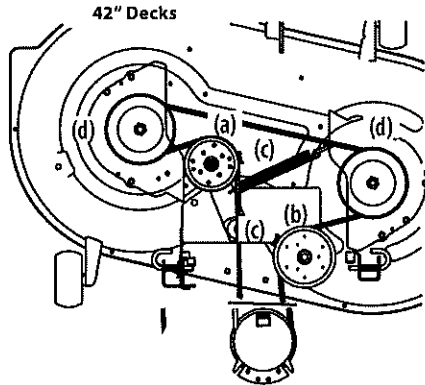
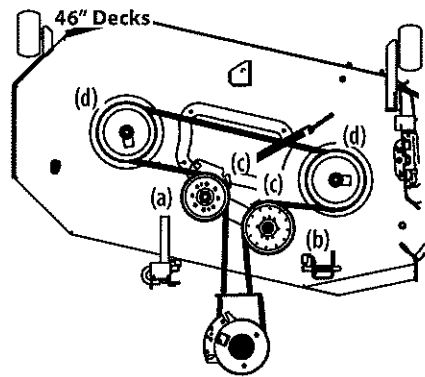
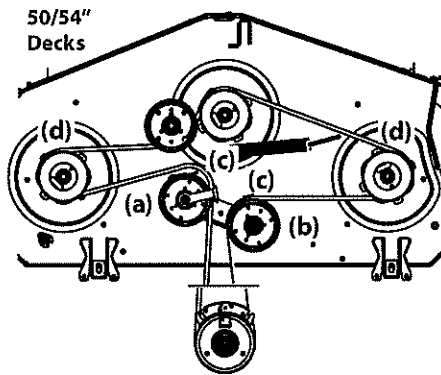
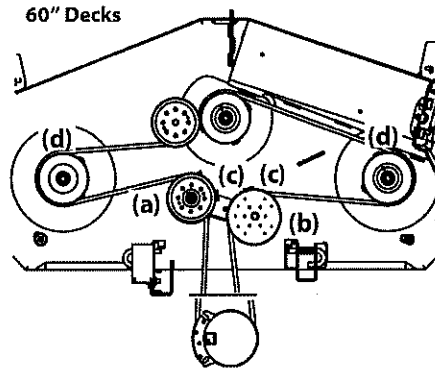

Figure 45
Figure 46
Figure 47
Figure 48
- Loosen, but do not remove the hardware on the right (a) and left idler pulley (b). Refer to Figure 45 for 42" decks, Figure 46 for 46" decks, Figure 47 for 50" and 54" decks and Figure 48 for 60" decks.